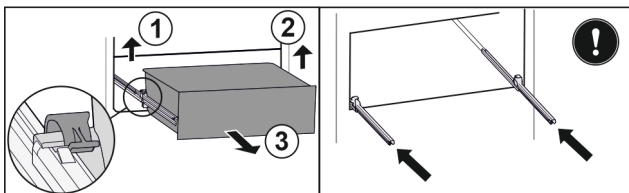

Fig. 83
- Lift left clamp and simultaneously pull drawer forwards on the left. Fig. 83 (1)
- Lift right clamp and simultaneously pull drawer forwards on the right. Fig. 83 (2)
- Remove drawer to the front. Fig. 83 (3)